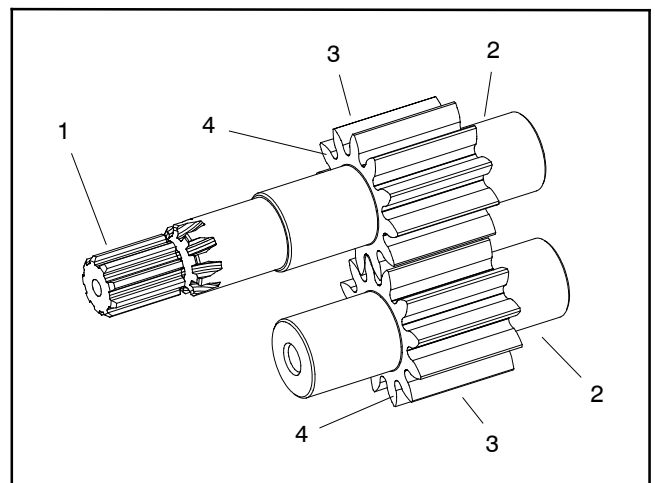

Figure 93
3. Inspect drive gears and idler gears for the following (Fig. 93):